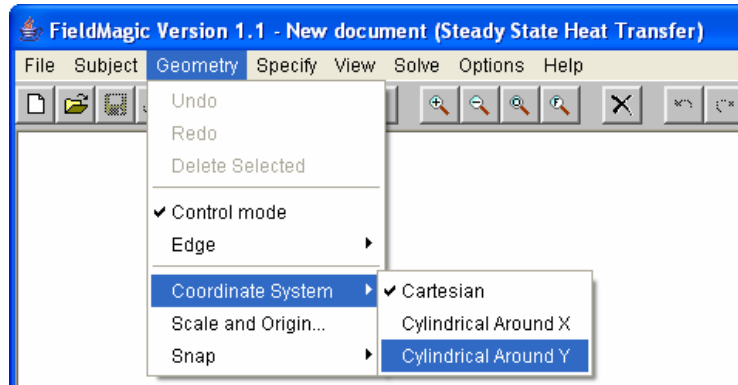

Figure 61. Changing the coordinate system to cylindrical coordinates so that an axis-symmetrical problem can be solved
- Coordinate System: Even though a two-dimensional modeling system, FieldMagic can be used to solve boundary value problems in three-dimensional axis-symmetric solids by changing the coordinate system. This is accomplished by clicking on the “Geometry” drop-down menu and navigating to “Coordinate System” and selecting one of the “Cylindrical” options (Figure 61). However, this feature is only available for heat transfer, electrostatic, and magnetostatic problems.